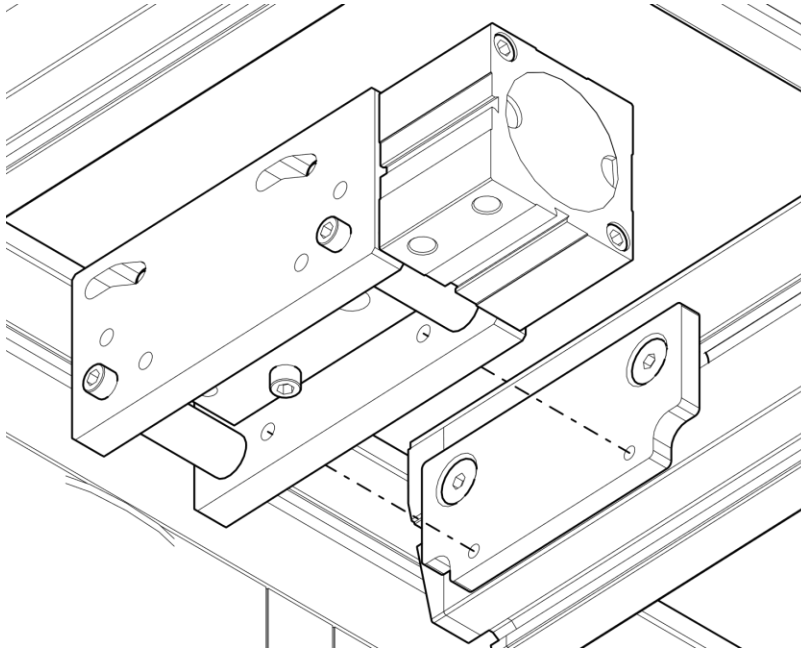

Figure 24: Lining up TVDS
**Step 7:** Line up TVDS mounting holes with the holes on P-00720 and secure with the M6 SHCS shown in Figure 24.